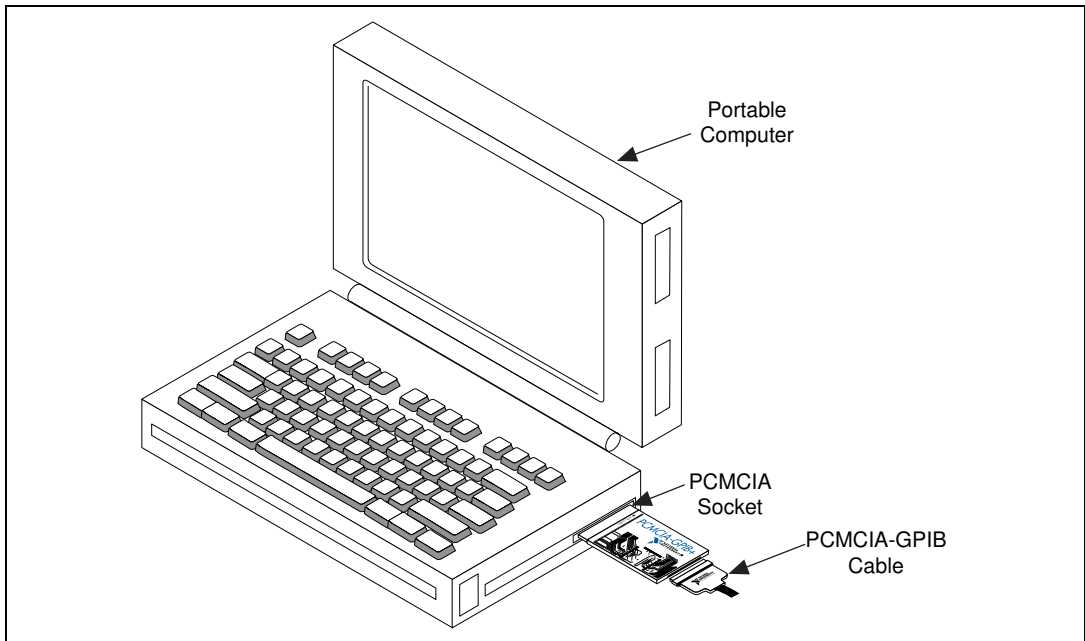

Figure 2-2. Inserting the PCMCIA-GPIB
2. Insert the PCMCIA-GPIB card into a free PC Card (PCMCIA) socket the same way you insert a disk into a floppy drive, as shown in Figure 2-2. The card has no jumpers or switches to set.